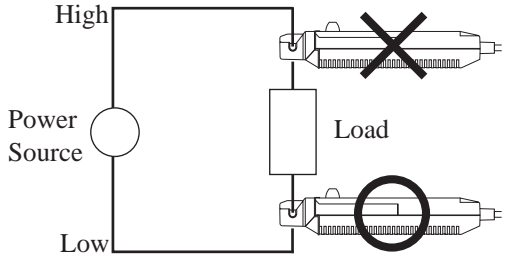

Figure 5. Low-voltage side of the
- At high frequencies, common mode noise may affect measurements taken on the high voltage side of circuits. If this occurs, reduce the frequency range of the waveform measuring instrument or clamp onto the low-voltage side of the circuit (as shown in figure 5), as appropriate.